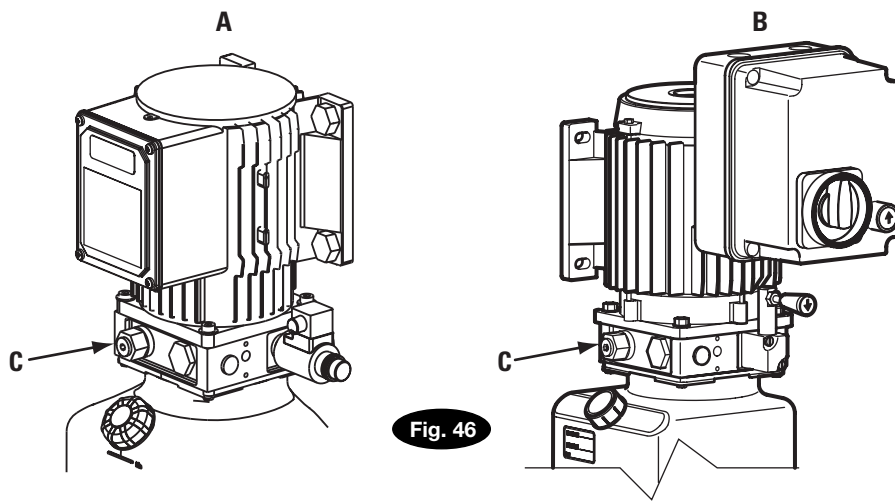

Fig. 46 Detail
44. Check Pressure (All Models): Check hydraulic pressure at indicated location on the power unit, Fig. 46. The maximum relief is not to exceed 18.99N/mm² for the SPOA40 and SP040 Series lifts. Not to exceed 14.50N/mm² for the SPOA30 Series lifts. These valves are nonadjustable. Replace if improper relief valve is in place.